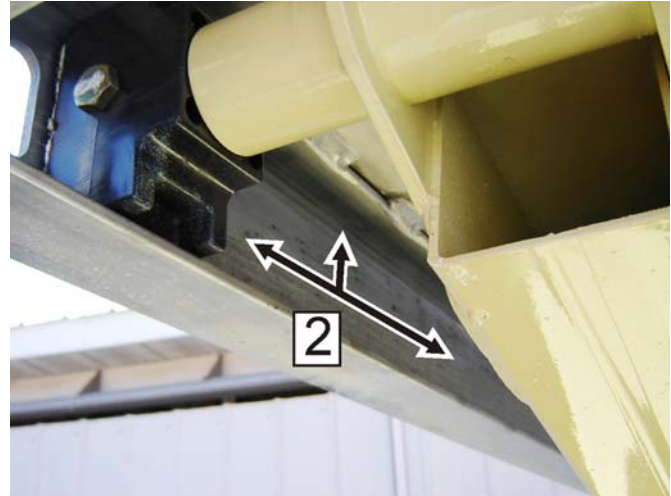

Figure 6-3. Upper Slide Pad Channel
4. Apply a layer of grease along the inside and top of the upper slide channel (2) on both sides of the machine. Refer to Figure 6-3., Upper Slide Pad Channel.